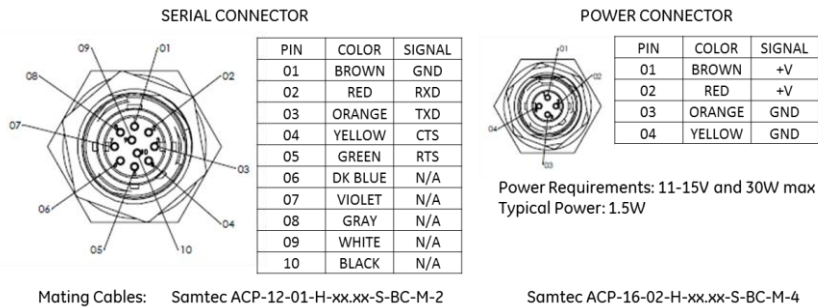

Figure 4: Connector Pin outs (view of unit connectors)
- Connect external DC power. A +12VDC power supply is provided with the unit to facilitate setup. The power supply is rated for indoor use only and should not be used outdoors without appropriate customer-provided weatherproofing measures such as a NEMA enclosure. Customer-provided power cabling should reference Figure 4.